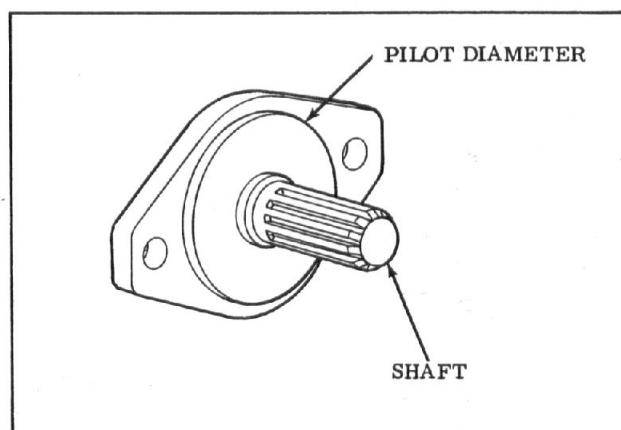

Figure 6 - Drive End of Pump
1. **Direct Drive** - A pilot on the pump mounting flange (Figure 6) assures correct mounting and shaft alignment, provided the pilot is firmly seated in the accessory pad of the power source. Care should be exercised in tightening all flange mounting screws to prevent misalignment.